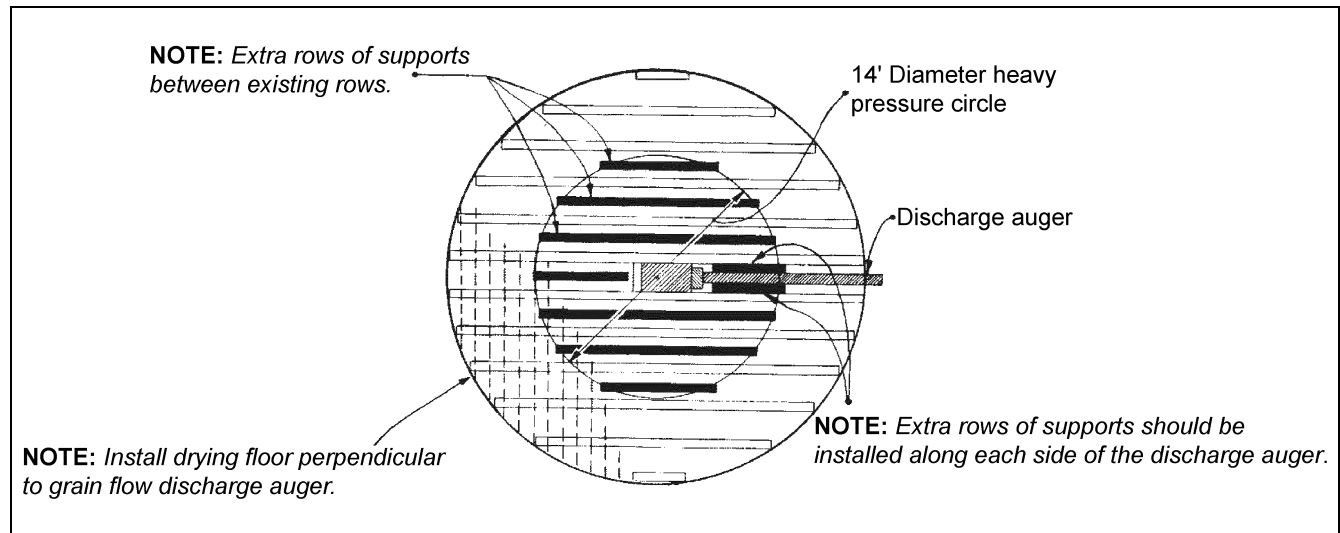

Figure 5V
When installing a Grain Flow in an existing bin, the drying floor will not have to be totally removed providing the Grain Flow discharge auger is going to be located perpendicular with the drying floor. \(See Step 18 and Figure 5V on Page 26.\)
18. Install the drying floor. An area 14' in diameter in the center of the bin MUST have extra floor supports to hold the extra down pressure that occurs during the operation of the Grain Flow. Install the floor perpendicular to the discharge auger starting on the opposite side of the bin from the auger. (See Figure 5V.)
For existing bins, replace the drying floor taken out. Follow Step 18 instructions. (See Figure 5V.)